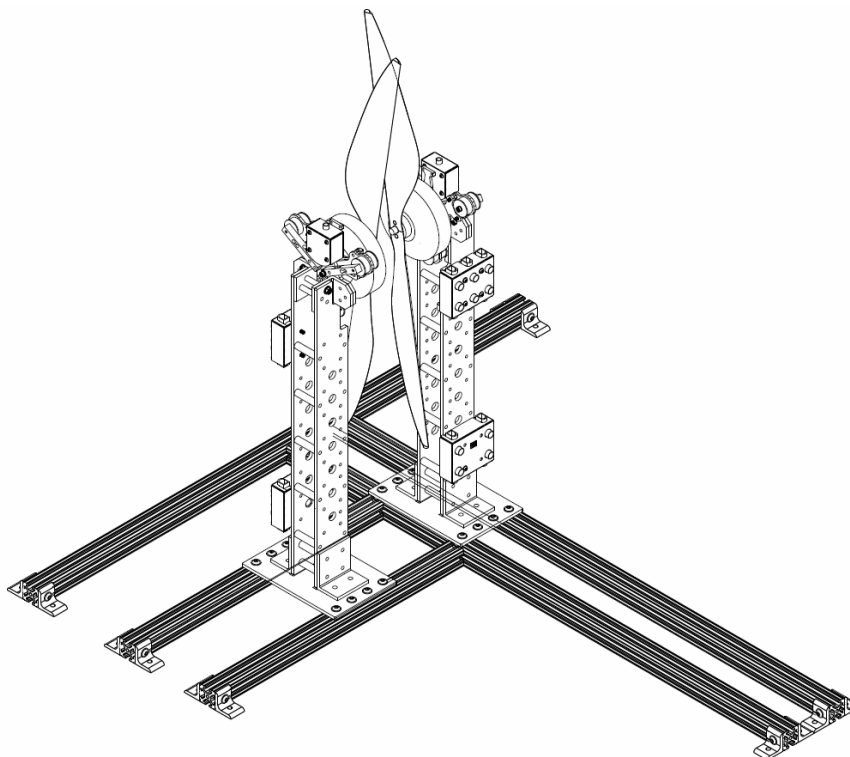

Fig. 3.5: The two-axis ground railing system (SKU#: KBJRA) with the Series 1780 coaxial version installed on the rails.
- Two-axis ground railing system shown in Fig. 3.5 (SKU#: KBJRA)